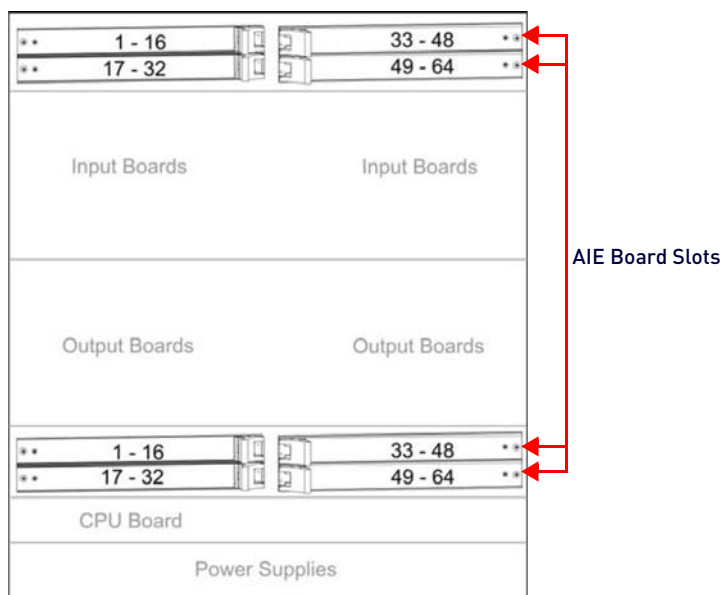

FIG. 92 AIE Board slot numbering on Enova DGX 6400
4. Repeat Steps 1 through 3 as necessary for the remaining overlays (FIG. 92):